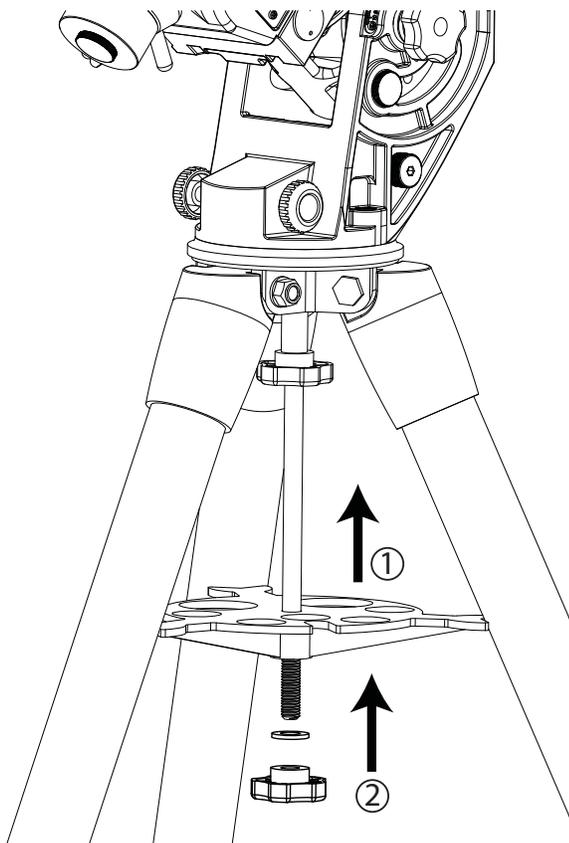

Fig. 1.3a
- Slide the accessory tray along the primary locking shaft until its three tips push against the tripod legs, and then secure the tray with the washer and the locking knob. (Fig. 1.3a)